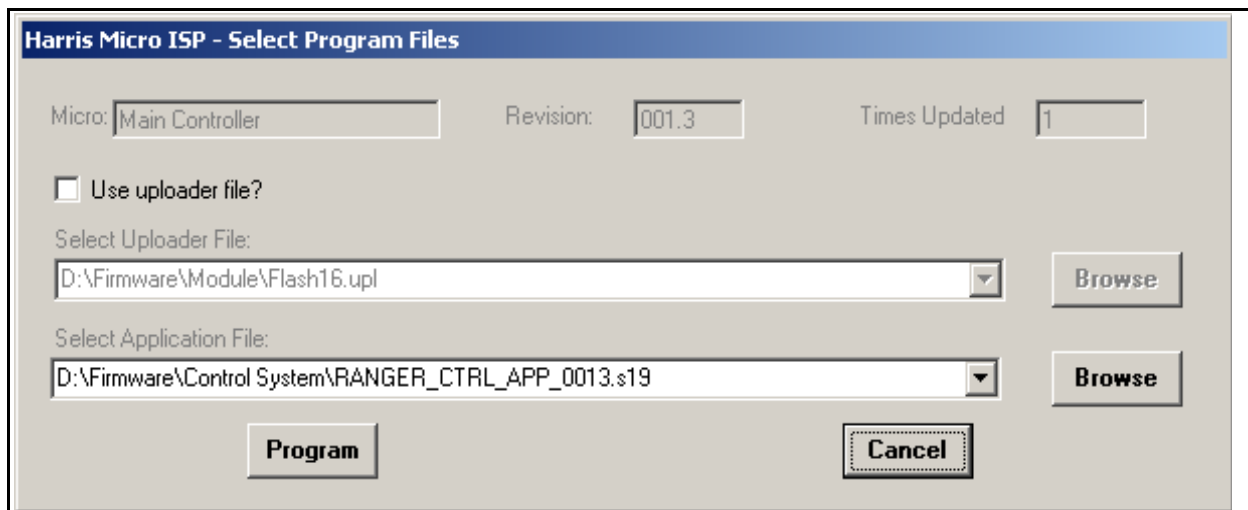

Figure 6-5 Browse the CD for the Desired S19 Application File
- STEP 9** Select the **Program File** button as shown. This will open the “Select Program Files” window shown in Figure 6-5.